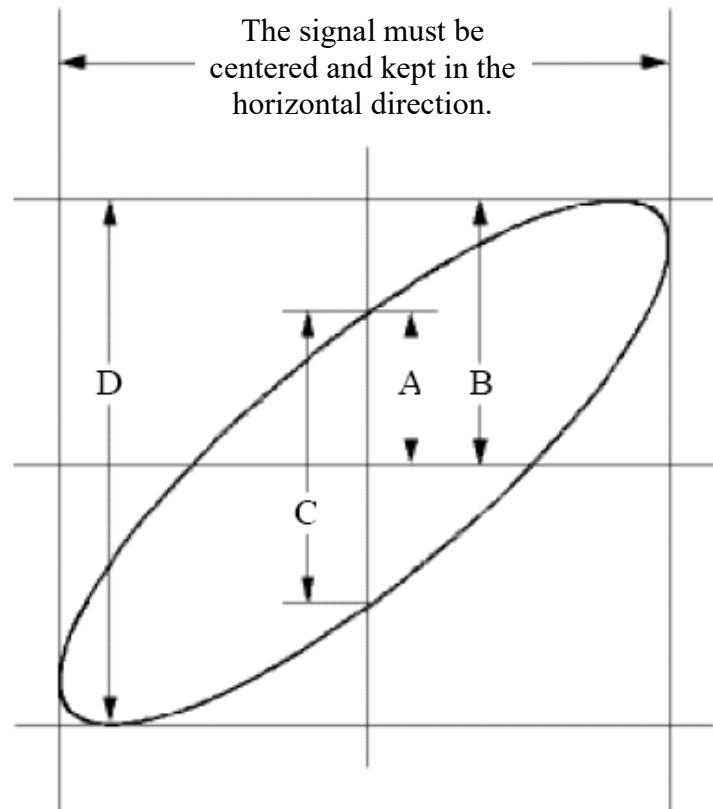

Figure 9-6 Lissajous Graph
- (8) Turn the **Vertical Scale** and **Vertical Position** rotary controls, optimizing the waveform.
- (9) With the elliptical oscillogram method adopted, observe and calculate the phase difference (see *Figure 9-6*).